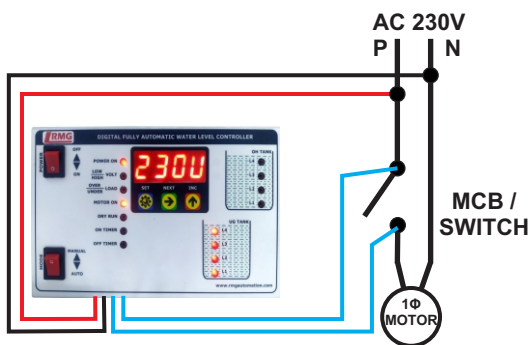
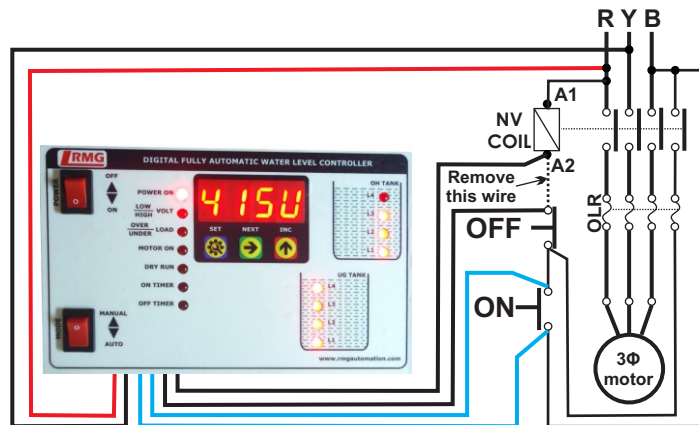
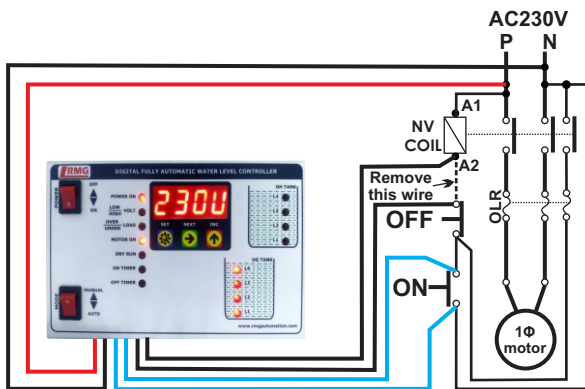

Figure1: 1Φ SWITCH/MCB
Figure2: 3Φ Starter
Figure3: 1Φ Starter
Step 2: As per the model purchased, check the label and connect AC supply (230V / 440 V) to red and black wire of controller refer figure 1 and figure 2.
Step 3: For switch or MCB, Connect blue pair wire of the controller to the switch/MCB of the motor in parallel as shown in figure 1.
Step 4: For starter, Connect blue pair wire of the controller to ON button of starter in parallel and black pair wire to OFF button in series (Refer to figure. 2 and figure. 3)